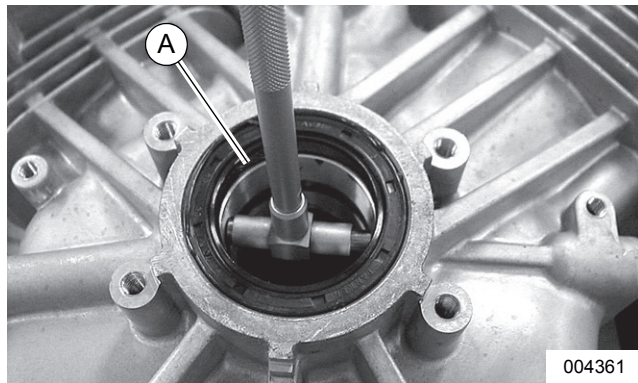

Figure 11-7. Check Magneto Bearing
See Figure 11-7. Check magneto bearing (A) for damage. Damaged bearings cannot be replaced. If undamaged, check for wear using a telescoping gauge and caliper. Measure at several locations. Crankcase must be replaced if measured diameter is larger than 1.506 in (38.25 mm).